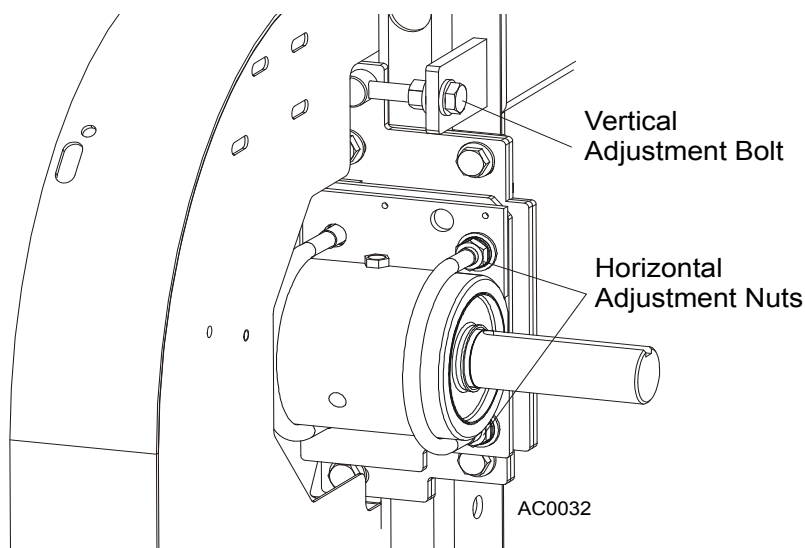

FIG. 5-3
**See Figure 5-3.** For horizontal adjustment, use the horizontal adjustment nuts. If the blade is running too far back on the drive-side blade wheel, locate the long U-bolt on the right which mounts the bearing housing to the mounting plates. Loosen the hex nuts on the U-bolt (on the back side of the back plate). Tighten the adjustment nuts to spread the plates apart and bring the blade forward.